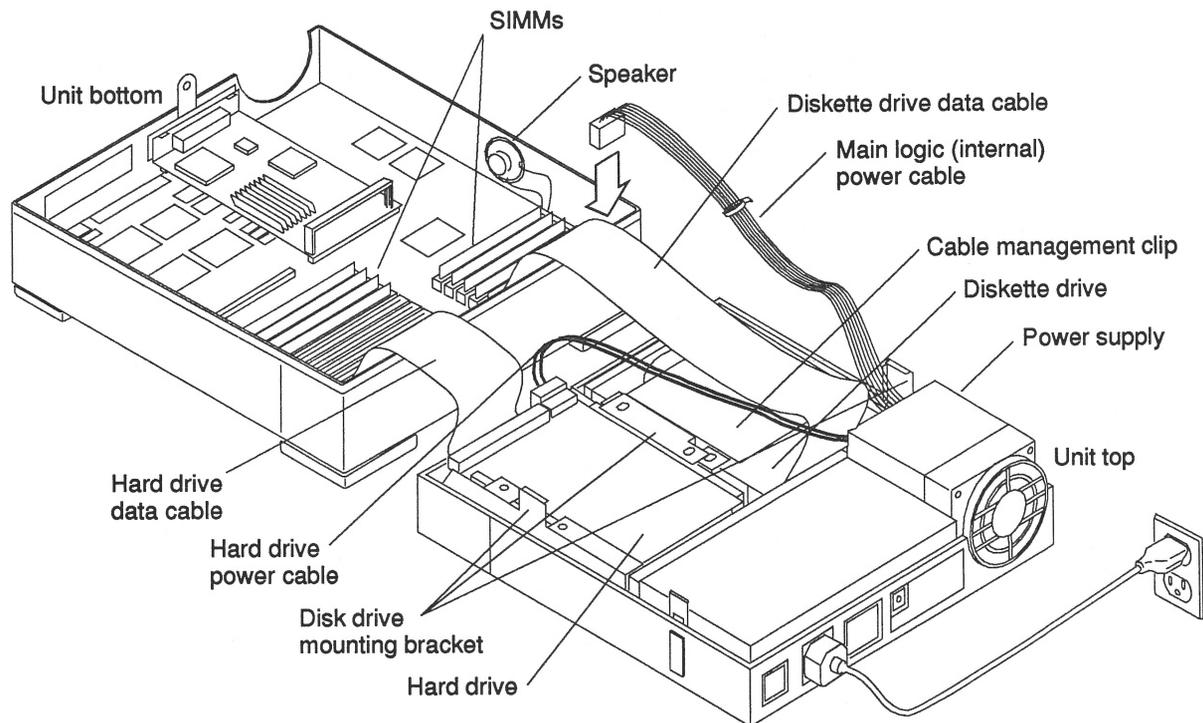

Figure 5-2 Open View of the SPARCstation IPC
Note - The unit top contains the power supply, the diskette drive, and the hard disk drive (refer to figures 5-2 and 5-3). It is the heavier of the two sections.
2. **Attach the end with the adhesive copper strip to the metal casing of the power supply in the system unit. Refer to figures 5-2 and 5-3.**